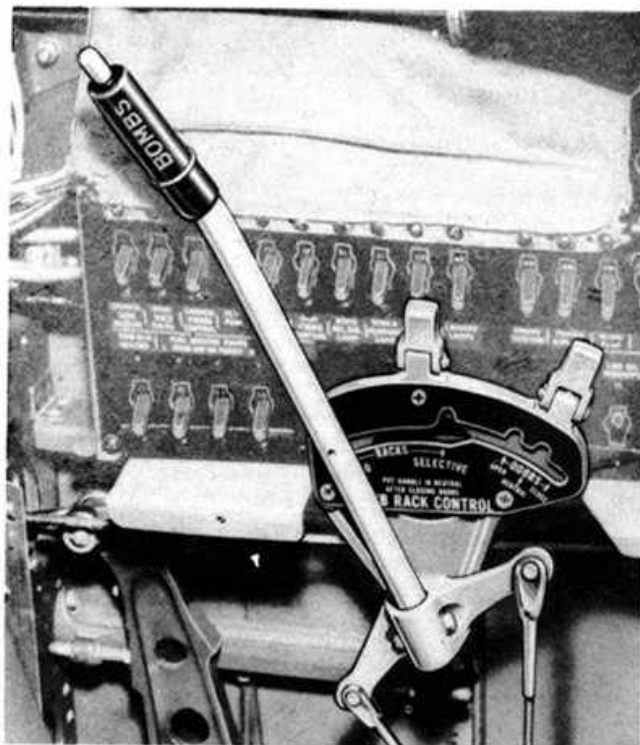
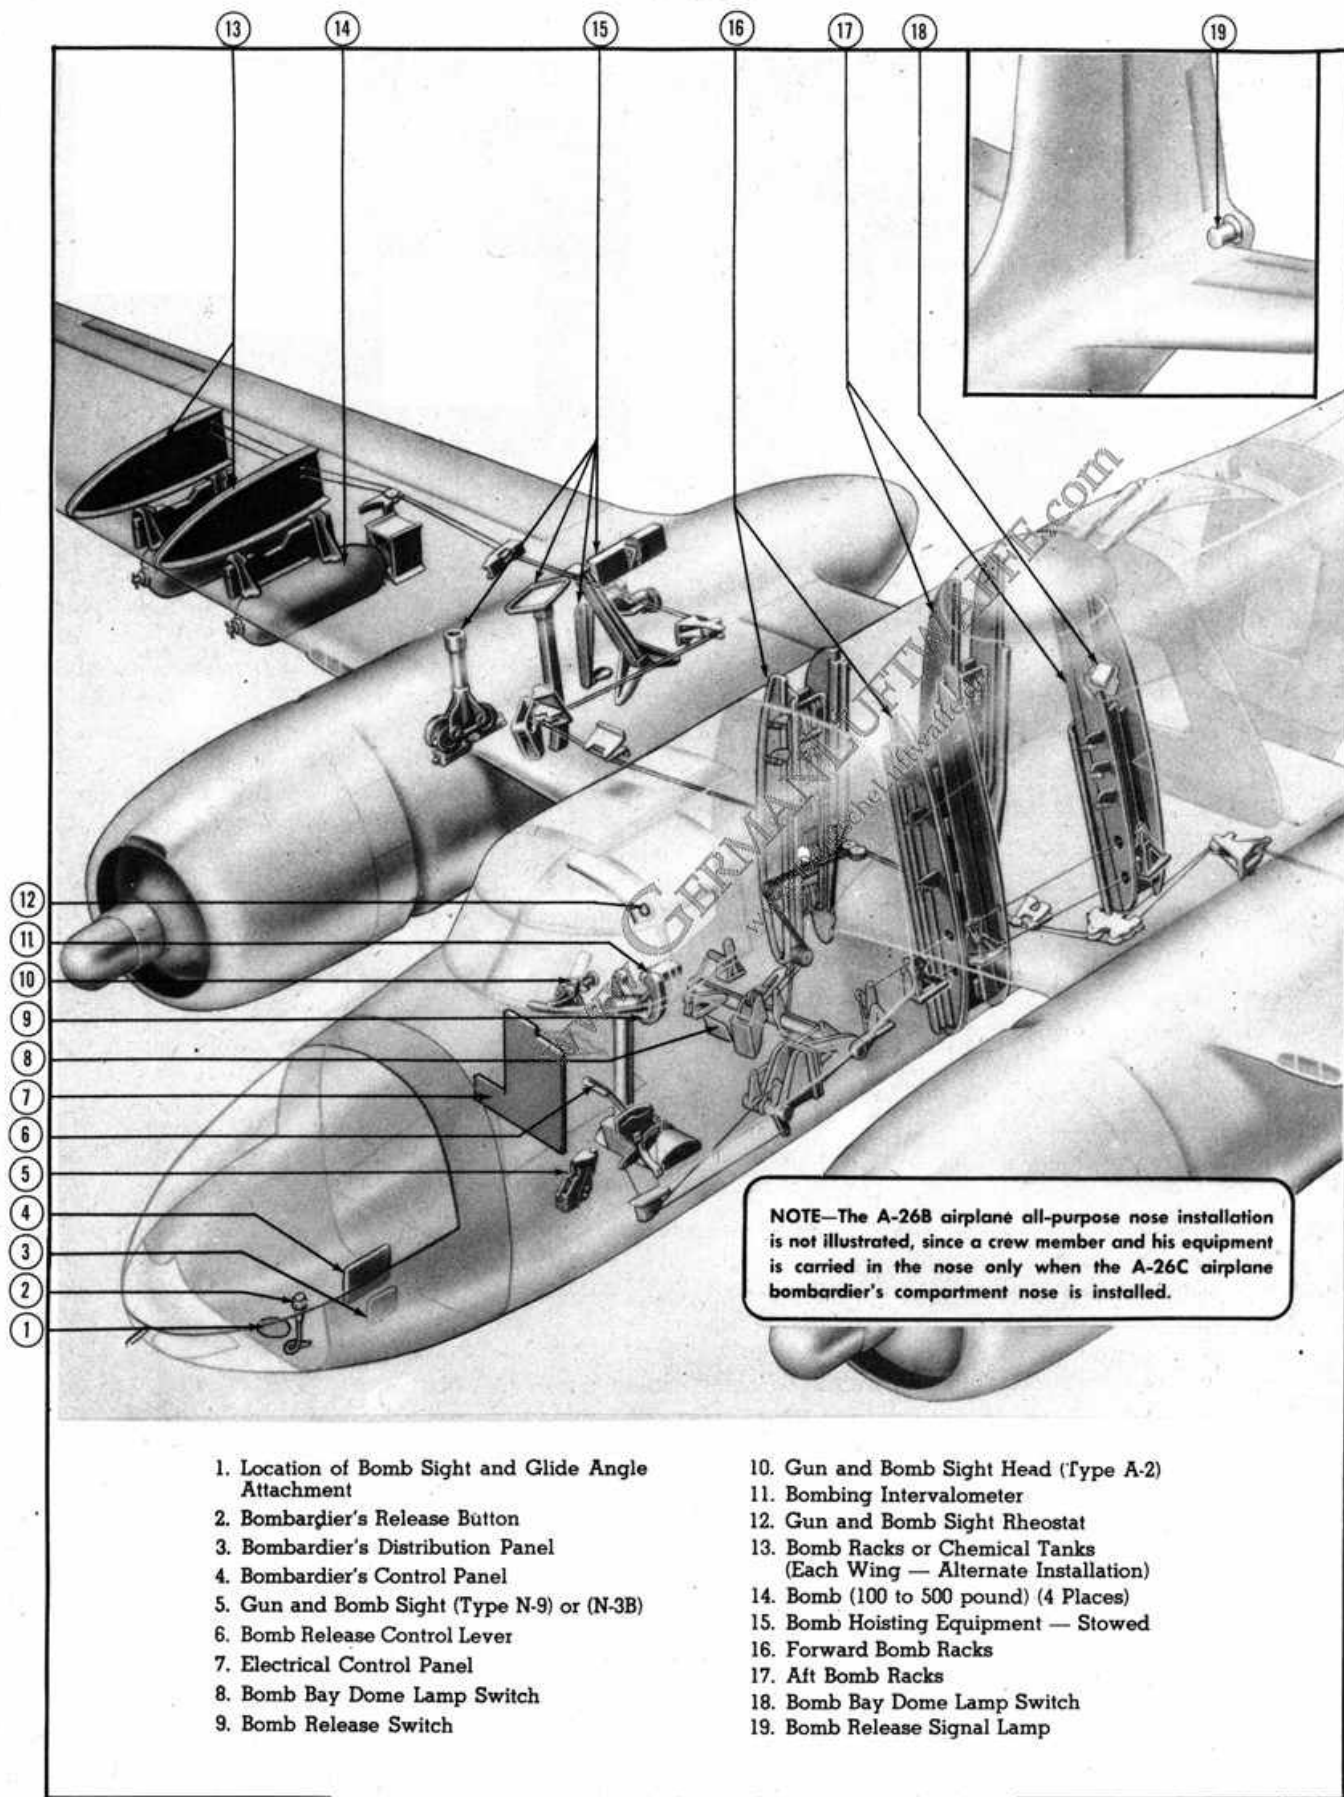

Figure 37—Bomb Rack Control (Early Airplanes)
Figure 38 — Bombing and Chemical Equipment Diagram
d. BOMBING EQUIPMENT. (Figure 38.)—Early airplanes are designed to carry demolition bombs only. Late airplanes will carry fragmentation bombs as an alternate load. Other airplanes will carry aerial parachute mines. Provisions are made on all airplanes for the alternate installation of two bomb racks under each wing. On some airplanes, the bombing control other than the gunsight rheostat, bomb and torpedo release switch, intervalometer controls and bomb rack control lever are located on the auxiliary electrical control panel (figure 8). On other airplanes, the bombing controls other than the gunsight rheostat, bomb and torpedo release switch and the intervalometer controls, are located on the main electrical control panel (figure 9). The bomb bay and wing racks are normally electrically operated by controls located in the pilot's compartment; however, either or both fuselage and wing racks can be manually released (figure 37) for bomb salvo. The electrical controls consist of switches located on the auxiliary electrical control panel (figure 8), a push button located on the
control wheel (9, figure 36), and an intervalometer unit located on the control pedestal (60, figure 21). The racks are manually controlled by the bomb rack control lever (figure 37).
(a) Some airplanes are equipped with manual provisions for bomb release in addition to the electrical provisions. The electrical switches are located on the auxiliary electrical control panel (figure 8). The bomb rack control lever (figure 37) is provided for manual salvo release of either or both fuselage and wing bombs. The bomb rack control lever is also used to open and close the bomb bay doors.
11. Bomb bay door switch (figure 9)—"OPEN." On some airplanes the doors are opened by a bomb rack manual control lever (figure 37). On airplanes with this lever, return the control to the "SELECTIVE" position *after* the bomb bay doors OPEN indicator lamp has illuminated.
(1) Bomb rack control lever (*figure 37*)—"BOMB DOORS OPEN" position.
(2) Bomb rack control lever (*figure 37*)—"SALVO" position as soon as the bomb bay doors open and indicator lamp lights.
(3) Bomb rack control lever—"BOMB DOORS CLOSED" position.
(4) Bomb rack control lever—"NEUTRAL," then lock the control in that position after the bomb bay doors open lamp is OFF.